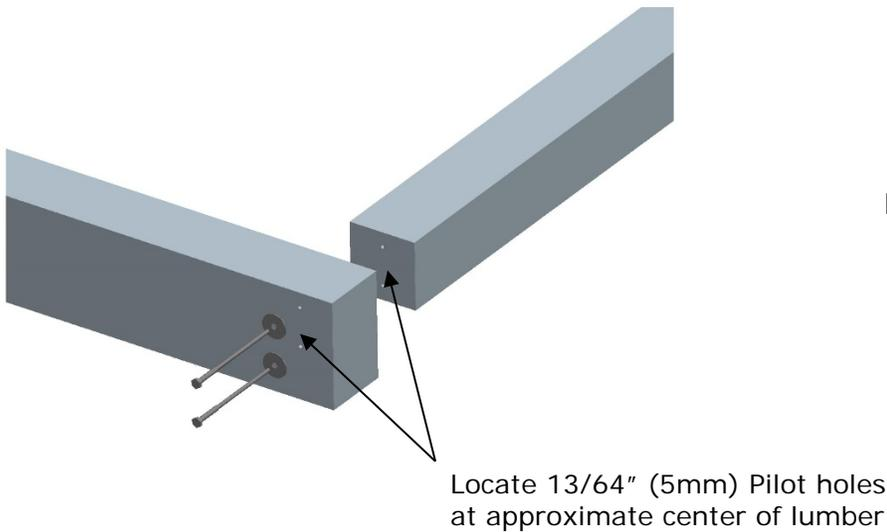

Figure 1
A. Using 13/64" (5mm) Drill Bit, drill (8) pilot holes. Repeat for all 4 corners (See Figure 1)
A. Using 5/16" (8mm) Deep Well Socket, assemble lumber using (2) 1" (25.4mm) washers with (2) 5-1/2 x 1/4 (139.7mm x 6mm) Lag Screws. Repeat for all 4 corners (See Figure 1)